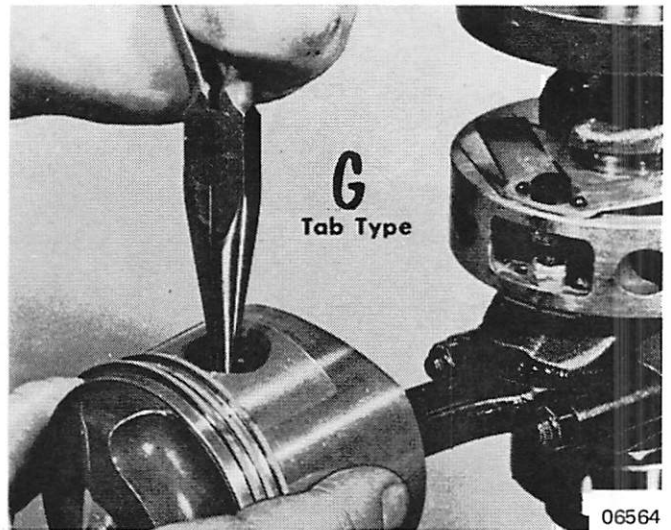

Figure 3. Removing "G" Type Piston Pin Lockring
5. Remove lockrings from both ends of piston pin with needle-nosed pliers. (Figure 3)